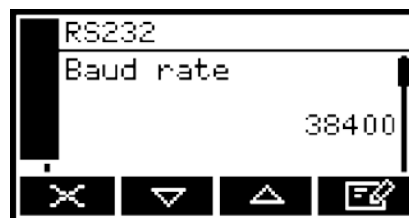

Figure 40 - The RS232 period screen      Figure 41 - The RS232 baud rate screen
- From the Settings screen, use the  and  soft keys to highlight the "Serial output" menu option, then press the  soft key. The first parameter screen will then be displayed: if you have selected serial outputs, the RS232 period screen will be shown (see Figure 40); if you have selected data logging, the RS232 baud rate screen will be shown (see Figure 41).